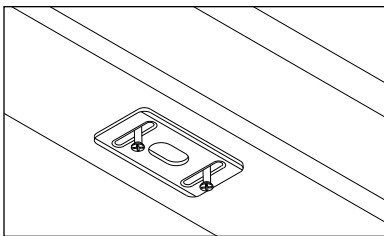

Figure 2c
After the double door is properly aligned, use the astragal bolts to mark and drill 3/8" diameter x 1 3/8" min. deep hole through the head jamb and 5/8" diameter x 1 3/8" min. deep hole through the sill, per Figures 2c, 2d, and 2e. Pre-drill (2) 1/16" pilot holes for the mounting screws for the head jamb. Install the retaining plate in the head jamb using the included hardware and insert the grommet into the 5/8" diameter hole in the sill.